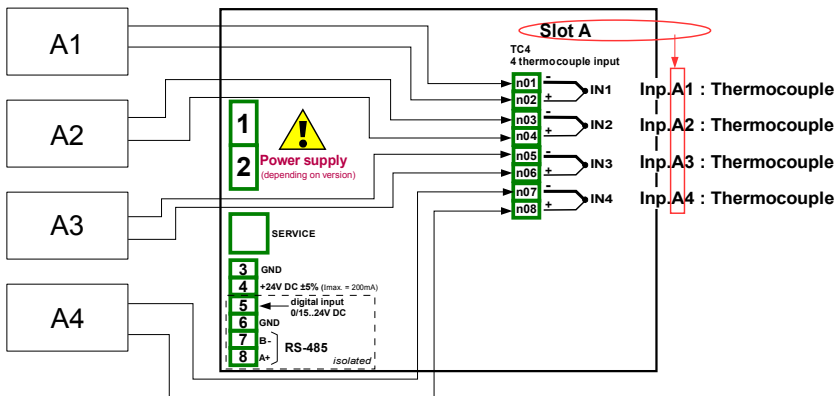

Fig. 7.67. Schematic diagram for the TC4 module
Before measuring temperature the thermocouple sensors should be connected to the device. An example of the connection is shown in **Fig. 7.67**.
- Source parameter set as **Inp. A1: Thermocouple** (see the connection in **Fig. 7.67**),
- **Source** parameter set as **Source - Inp. A2: Thermocouple** (see Fig. 7.67),
- Source parameter set as **Source - Inp. A3: Thermocouple** (see Fig. 7.67),
- Source parameter set as **Source - Inp. A4: Thermocouple** (see Fig. 7.67),